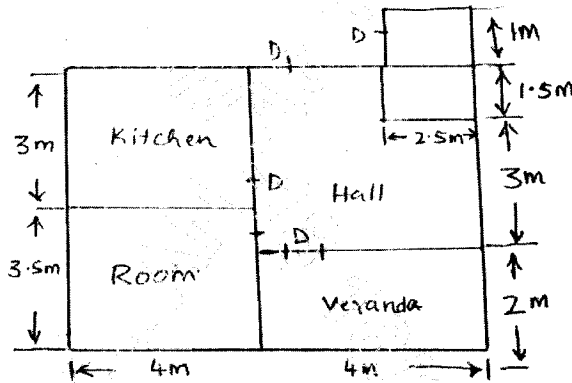

Fig. Q2 (b)
b. The Fig. Q2 (b) shows the plan of a low income group government quarters. Draw the single line diagram for lighting and heating circuits on the sketch. Calculate total load, length and size of the wire by taking safety factor of 2. (14 Marks)